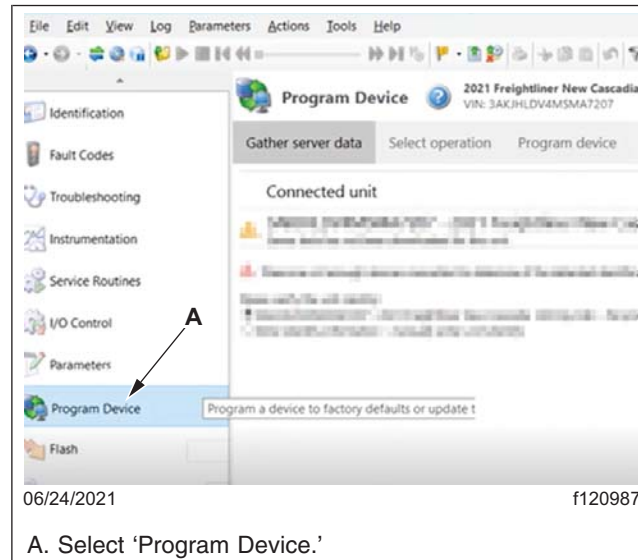
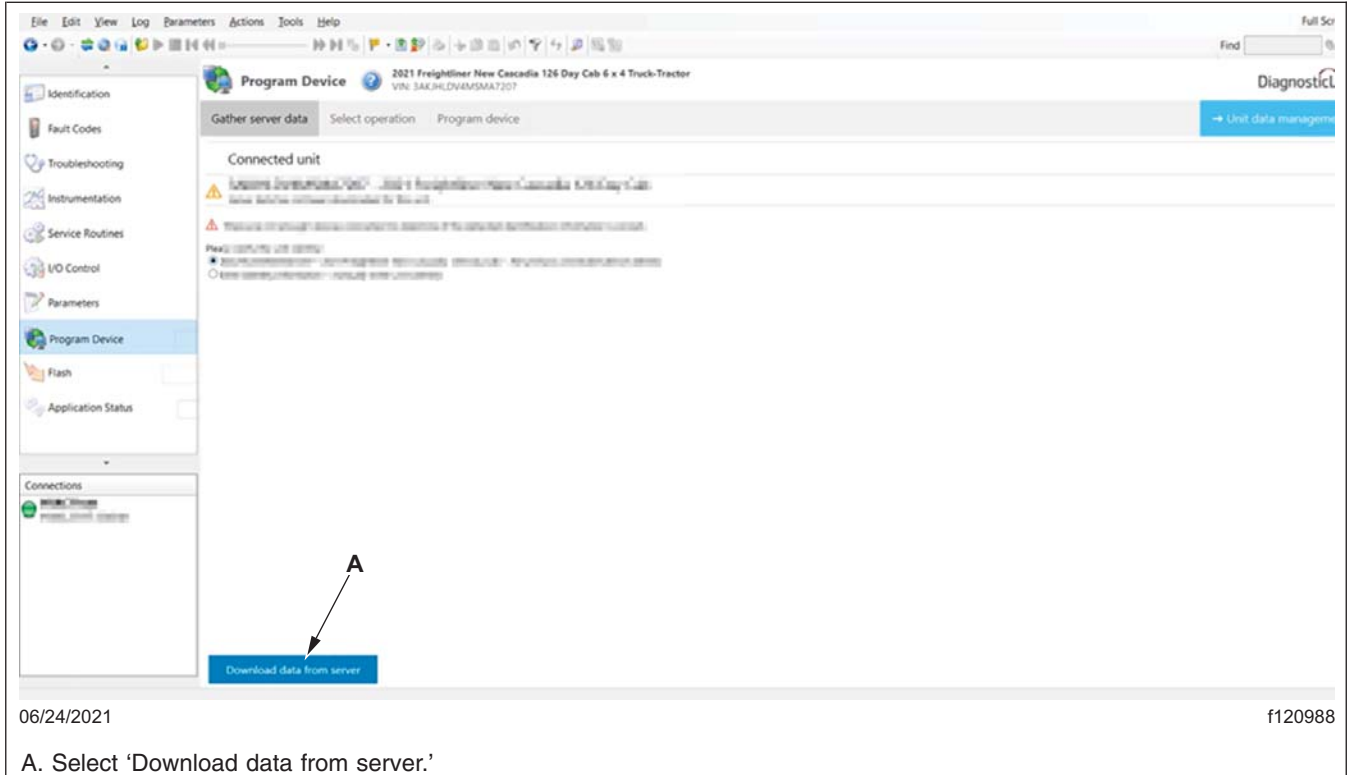

Fig. 1, Selecting Program Device
Fig. 2, Downloading Data from Server
- Go to 'Program Device,' then select 'Gather Server Data.' Verify and select the vehicle identification number (VIN), then select 'Download Data from Server.' See Fig. 1 and Fig. 2.
- Select 'Program Device' on the left-hand side of the window. See **Fig. 1**.